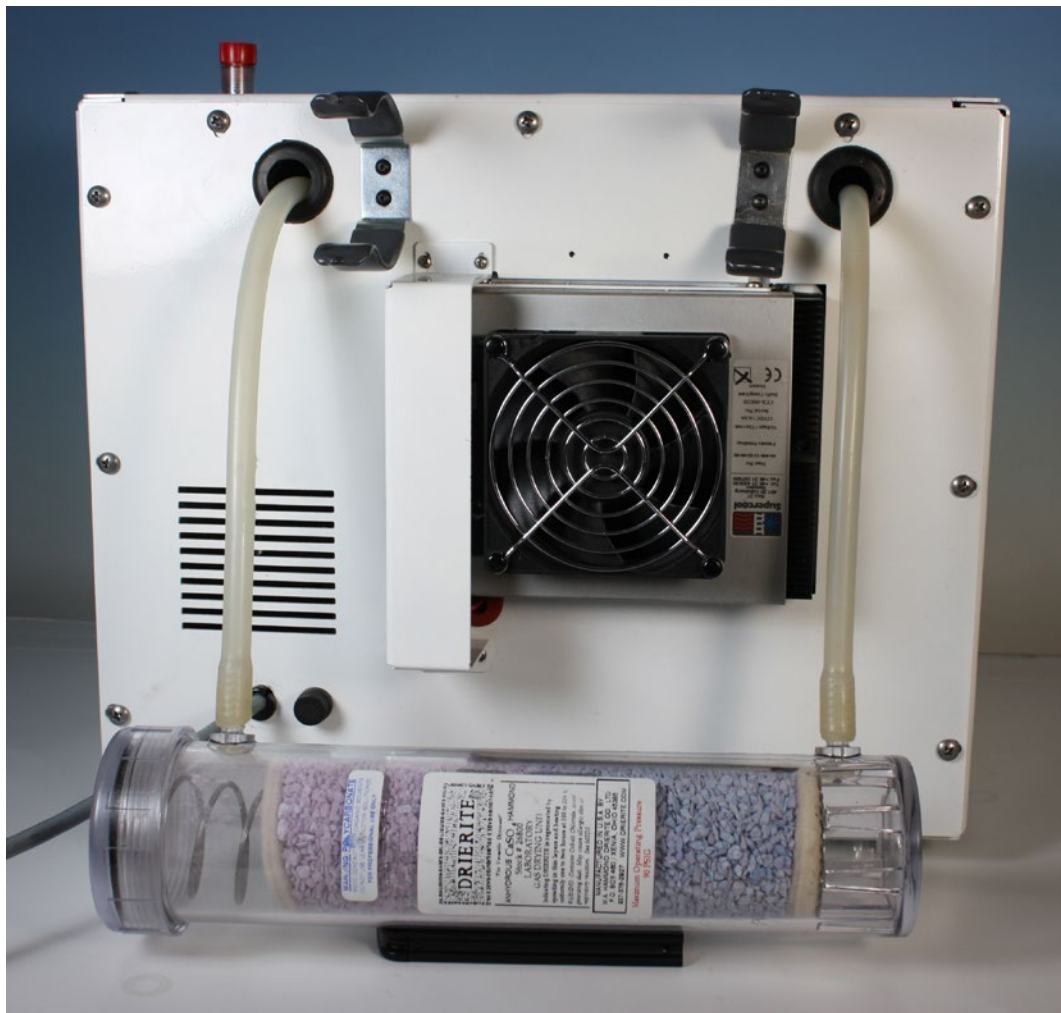

Figure 2: Desiccant Reservoir Pulled From H300
- Pull until the hoses will not extend farther. Do not force the hoses to extend. Do not remove the hoses from the desiccant reservoir. See Figure 2 below.